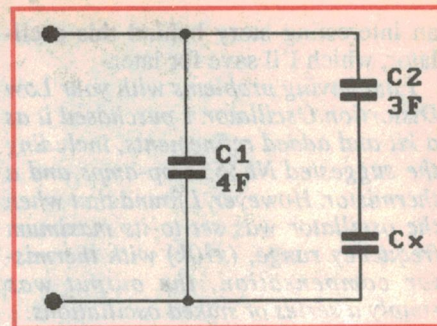

Fig.2.
For the circuit shown in Fig.2, determine the value of capacitor Cx that gives the entire network a capacitance equal to the value of Cx.
**Fig.2:** The rear of the Stewart Warner 300 with the wooden back and its attached lid removed. Directly under the lid, the all-important UV201A valves were readily accessible. From the right, they are 1st RF, output, 2nd RF, 1st audio and detector.